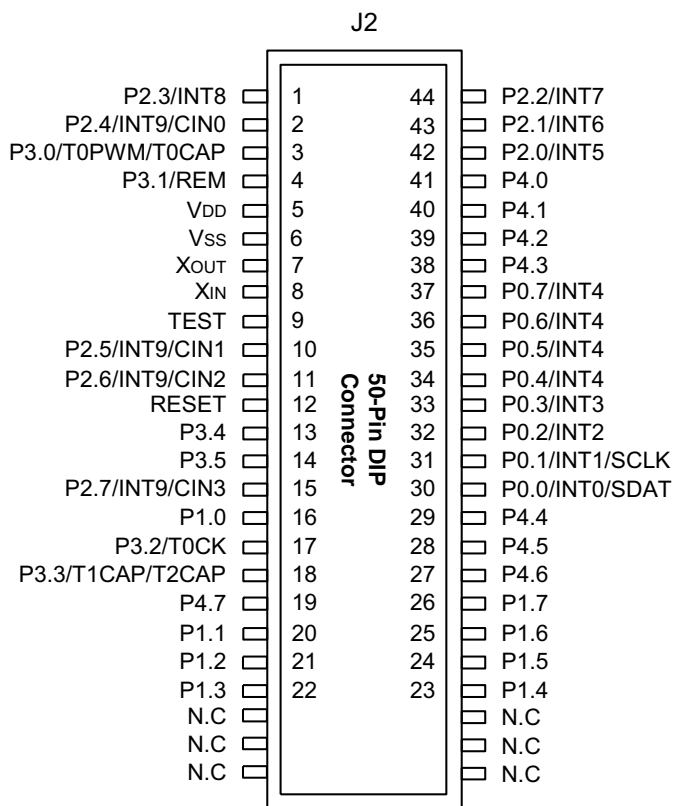

Figure 104. 50-Pin Connector Pin Assignment, User System
Pin assignments for the TB80PB Target Board are shown in Figure 104.
► **Note:** In Figure 104, N.C = No Connection.